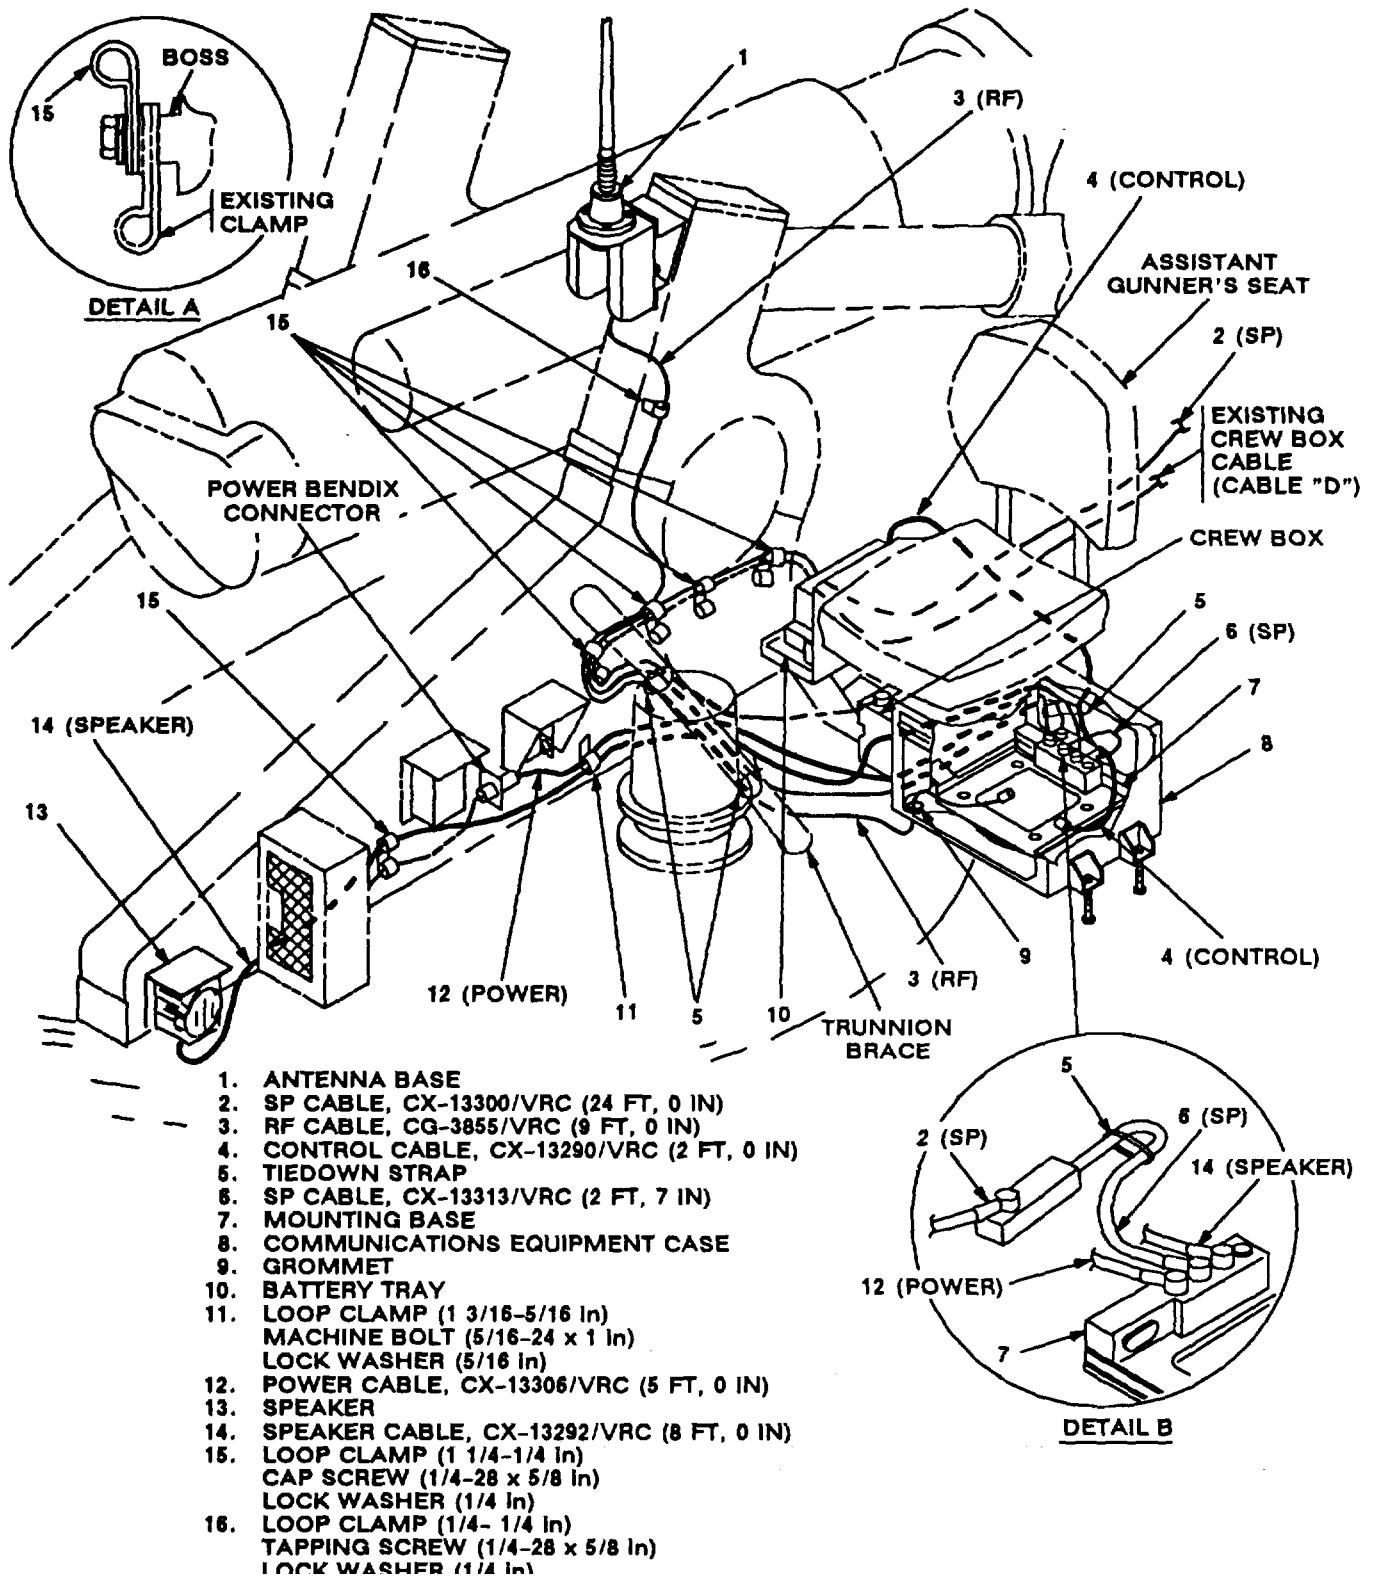

Figure 5-9 (2). Cable Installation: Assistant Gunner's Station
m. Tiedown strap (5).	Wrap around SP cable (2), RF cable (3) and existing crew box cable; then install loosely to upper part of trunnion brace. See figure 5-9 (2) for location(s).
n. Tiedown strap (5).	Wrap around SP cable (2) and RF cable (3); then install loosely to lower part of trunnion brace.
o. Existing crew box cable (cable D).	Connect and secure to crew box. See figure 5-9 (2).
p. RF cable (3) connector P2.	Insert through grommet (9) and position on top of mounting base (7).
q. SP cable (2) connector P2.	Connect and secure SP cable (6) connector P1. See figure 5-9 (2), detail B.
r. SP cable (6) connector P2.	Connect and secure to mounting base (7) connector J3; then secure with tiedown strap (5).
s. Speaker cable (14) connector P2.	Connect and secure to speaker (13) connector J1. See figure 5-9 (2).
t. Speaker cable (14).	Route forward along base of right trunnion to area below trunnion brace.